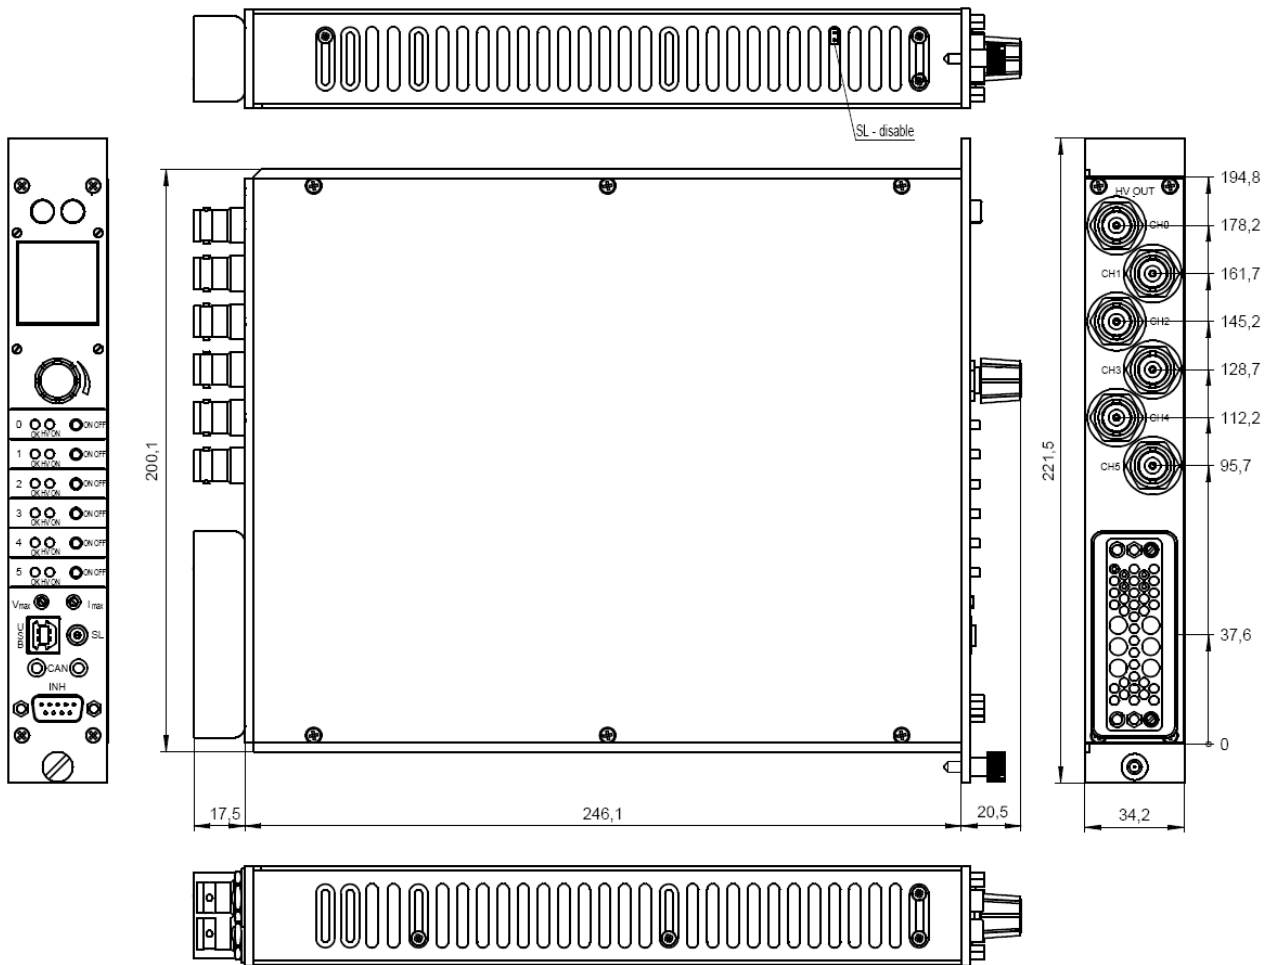
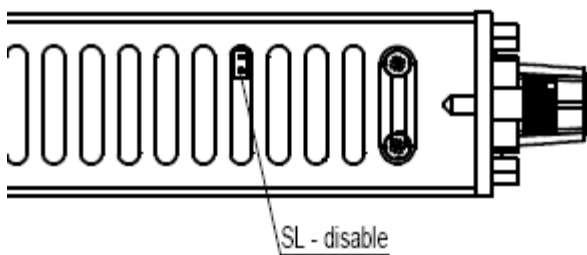

Figure 1: Dimensional Drawing NHS
Figure 2: detailed view of Figure 1, Safety Loop (SL)
By factory setup the safety loop is not active (the corresponding bits are always set). The loop can be activated by removing the internal jumper. The jumper can be accessed via a ventilation slot on the bottom of the module (see dimensional drawings for exact position, Figure 2: detailed view of Figure 1, Safety Loop (SL)).